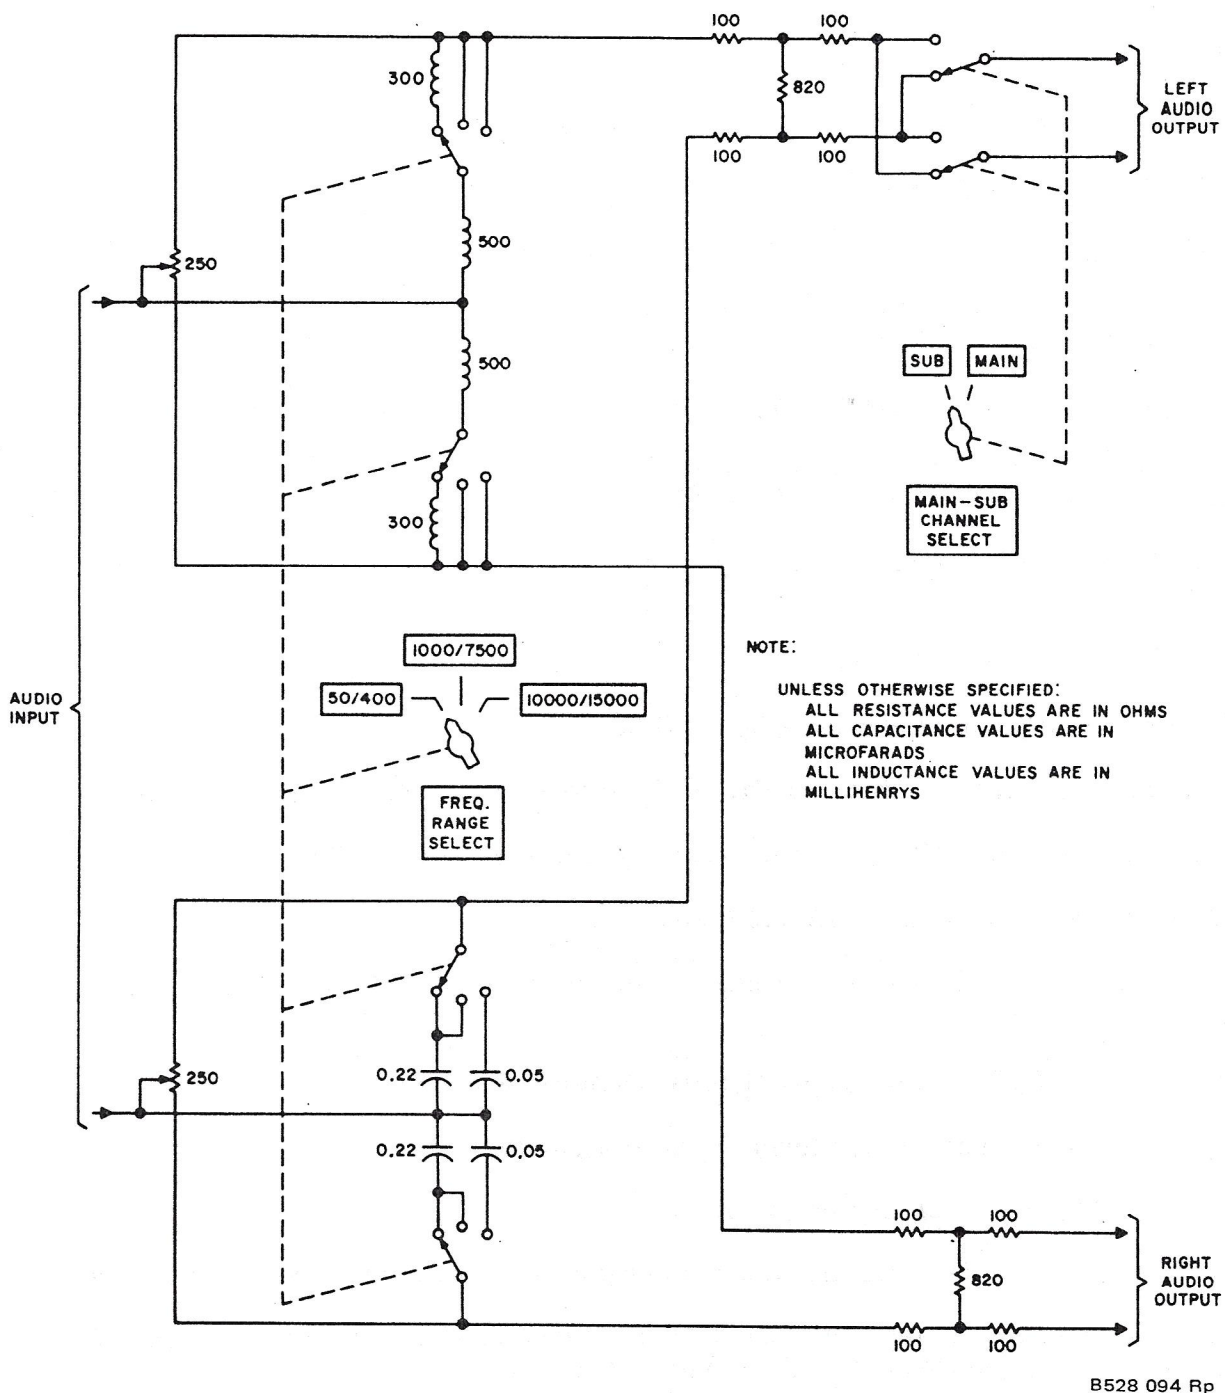

Figure 5-5. Nonlinear Crosstalk Test Circuit, Schematic Diagram.
- a. Connect the equipment as shown in figure 5-4. The crosstalk test circuit shown on figure 5-5 must be fabricated for this test.